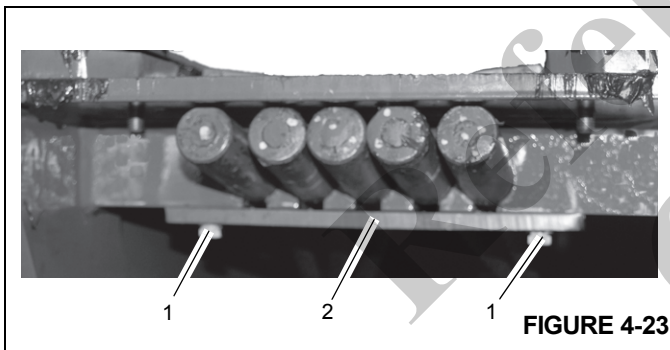

FIGURE 4-23
8. Position the sheave end of the telescope cylinder (with port block up) at the rear of the fly section. Place the five extend cable dead ends in the slots at the top of the fly section and secure them with keeper plate (2), capscrews and washers (1) (Figure 4-23).